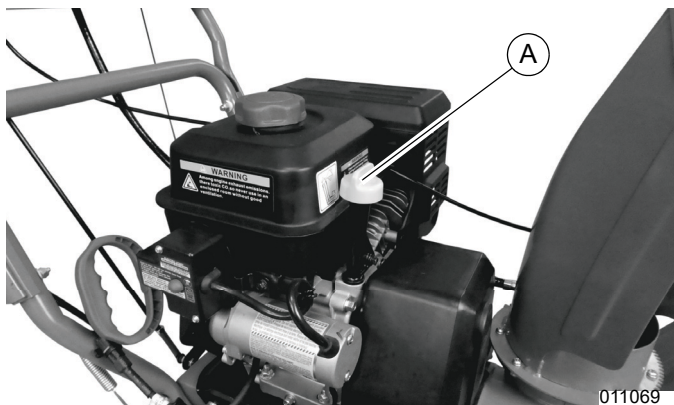

Figure 2-20. Oil Dipstick and Fuel Fill
- See **Figure 2-20**. Remove oil dipstick/fill cap (A).